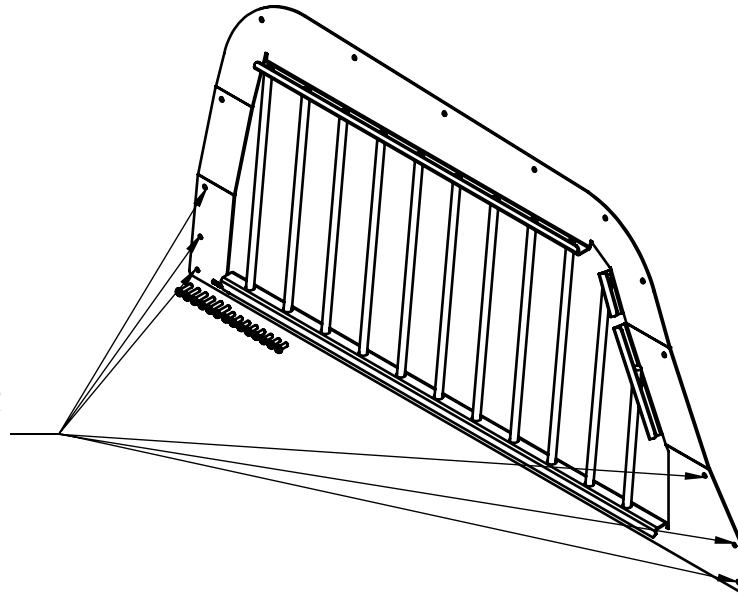

FIG. 1
5. MAKE SURE TO USE LONGER SCREWS AT 3 LOWER MOUNTING HOLES (FIG. 1) ON EACH SIDE.